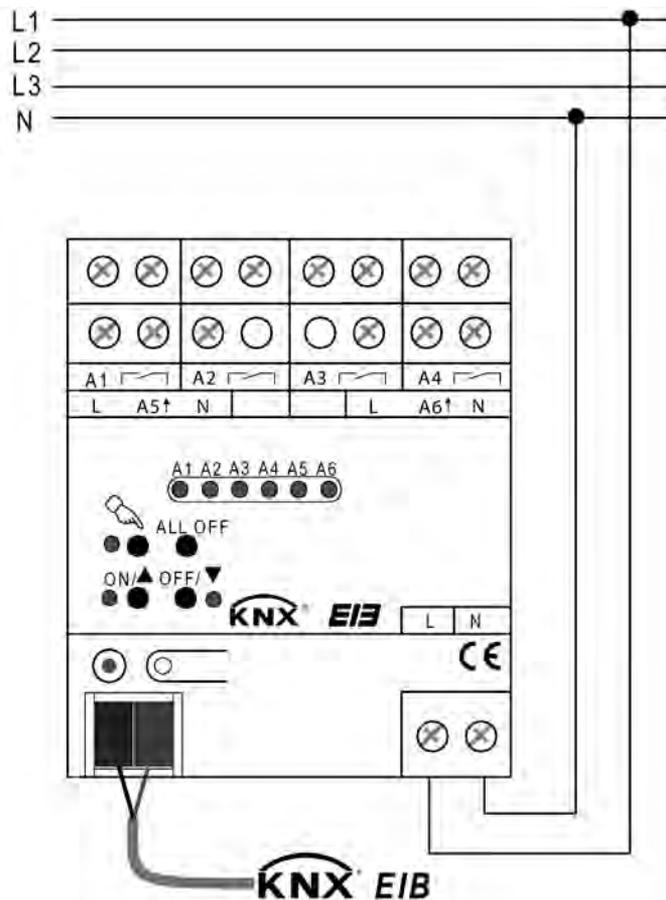

Figure 2: Electrical connection of mains voltage
- Connect the bus (standard bus terminal) and the mains voltage as shown in Fig. (figure 2).